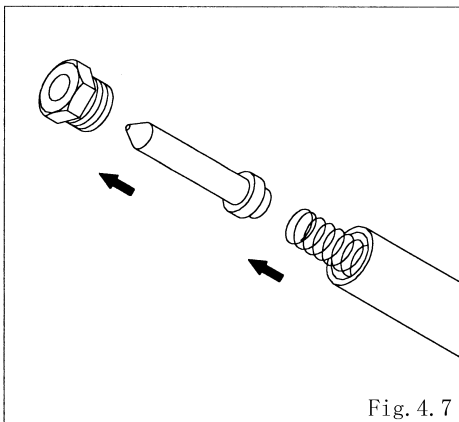

Fig. 4.7
- Remove the nut, and remove the valve from the center rod. [Fig. 4.7]